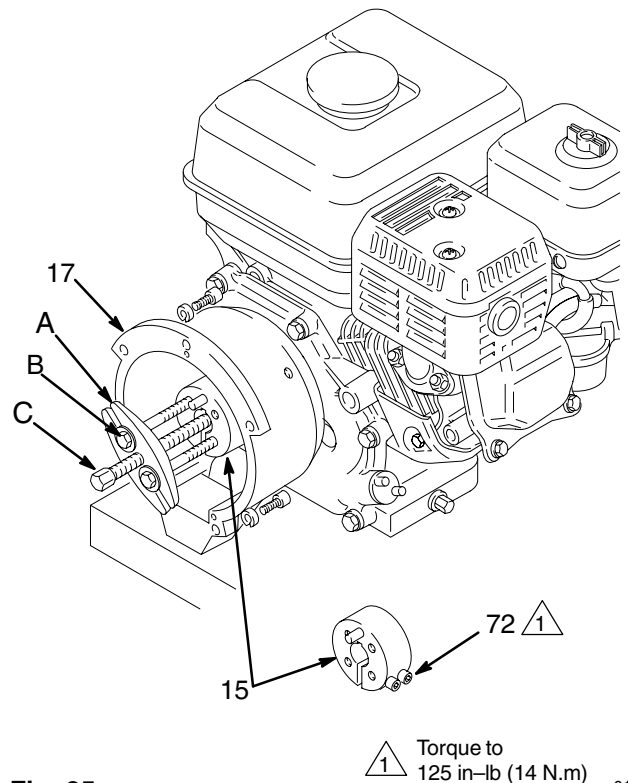

Fig. 25
**NOTE:** Refer to Fig. 25.
1. Loosen the two screws (4) on the clamp (15), working through the slot at the bottom of the clutch housing (17).
2. Install two screws (B) of the tool (A) in two of the threaded holes in the clamp. Tighten the screw (C) until the clamp comes off.